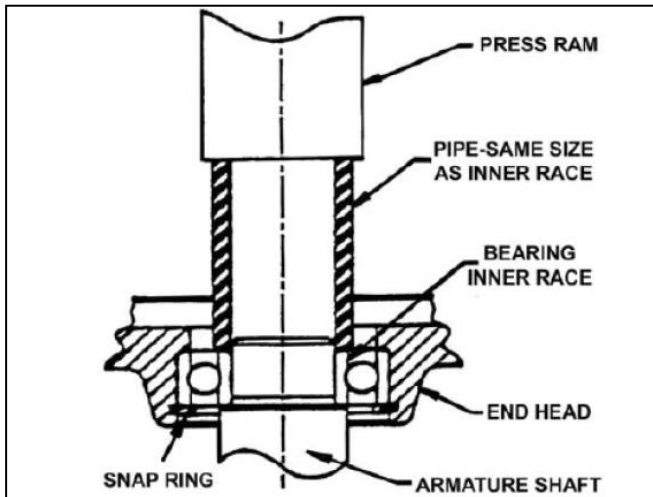
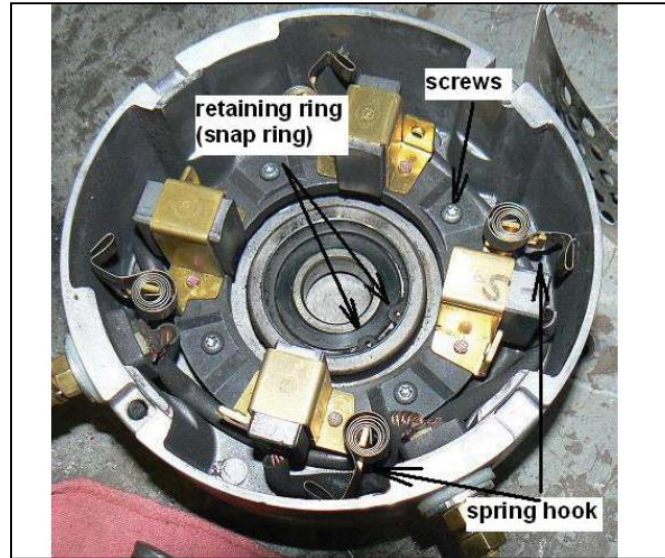

Figure 10-15
Figure 10-16
1. Always use a new bearing when reassembling a motor. Press bearing into motor head. Press only against the outer race. See Figure 10-15. Install snap ring to retain bearing. Figure 10-16.
3. Position brush holder into motor head as shown in Figure 10-16. Make sure that the terminals for the brushes are loose and free.
6. Press motor head and bearing onto armature, pressing only against inner race of the bearing. See Figure 10-15.